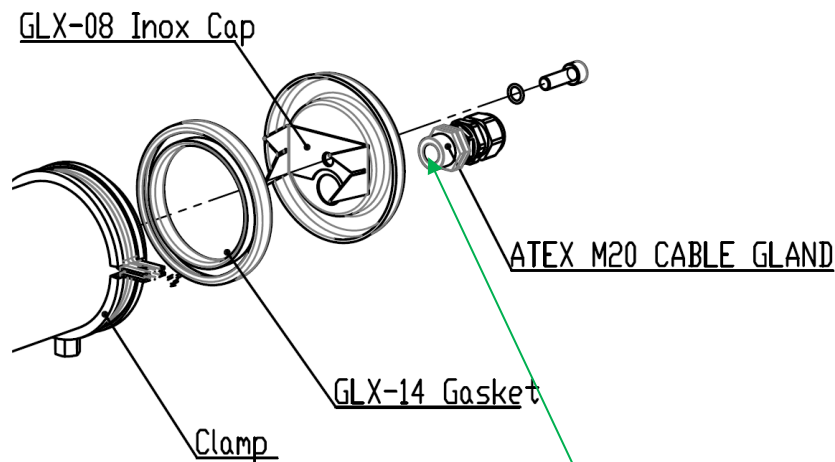

Fig. 6
- Equipotential connection will be granted using a hearth tag placed between ATEX cablegland and closing cap (Fig 6).